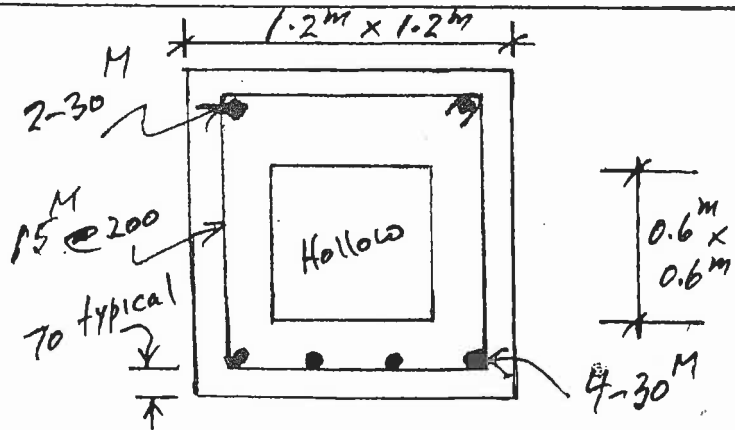

FIGURE B1
- B1. Figure B1 shows the cross-section of a reinforced concrete box culvert. Calculate the moment of resistance M_r and the shear resistance V_r of the section. Use $f'_c = 35$ MPa and $f_y = 400$ MPa.